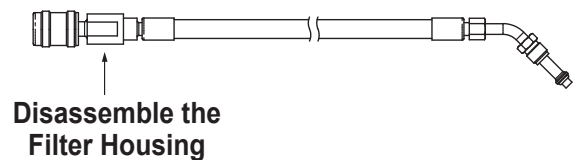

Figure 27
2. Disassemble the tank fill hose at the filter housing as shown in Figure 27.